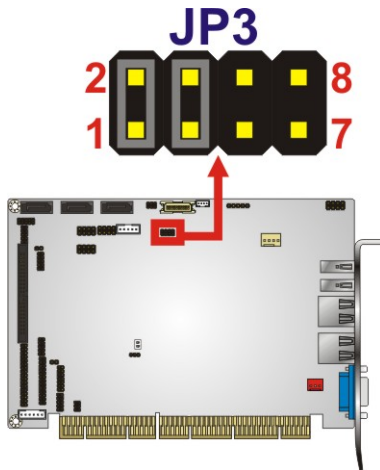

Figure 4-7: LVDS Resolution Selection Jumper Pinout Locations
- Jumper Location:** See **Figure 4-7**
The LVDS Voltage Selection jumper location is shown in **Figure 4-7**.